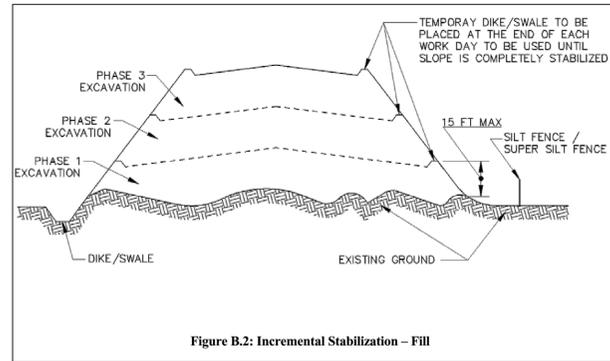

Figure B.2: Incremental Stabilization - Fill
- 1. Construct and stabilize fill slopes in increments not to exceed 15 feet in height. Prepare seedbed and apply seed and mulch on all fill slopes as the work progresses. 2. Stabilize slopes immediately when the vertical height of a lift reaches 15 feet, or when the grading operation ceases as prescribed in the plans. 3. At the end of each day, install temporary water conveyance practice(s), as necessary, to intercept surface runoff and convey it down the slope in a non-erosive manner. 4. Construction sequence example (Refer to Figure B.2): a. Construct and stabilize all temporary swales or dikes that will be used to divert runoff around the fill. Construct silt fence on low side of fill unless other methods shown on the plans address this area. b. At the end of each day, install temporary water conveyance practice(s), as necessary, to intercept surface runoff and convey it down the slope in a non-erosive manner. c. Place Phase 1 fill, prepare seedbed, and stabilize. d. Place Phase 2 fill, prepare seedbed, and stabilize. e. Place final phase fill, prepare seedbed, and stabilize. Overseed previously seeded areas as necessary.